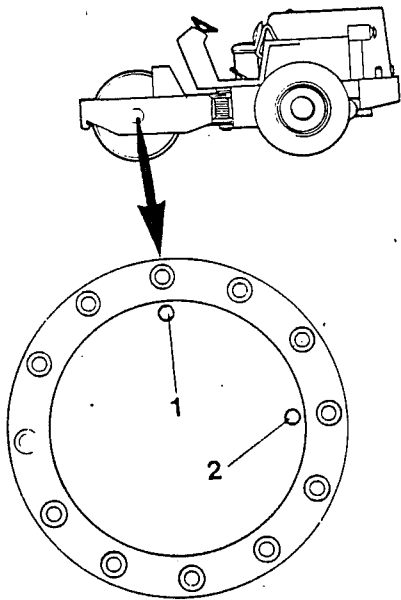

Fig 21 Filling up with oil
- 2 At the same time, check that the fan V-belt monitor is in working order. The horn should sound with the V-belt monitor contact (2 in Fig 21) is depressed.